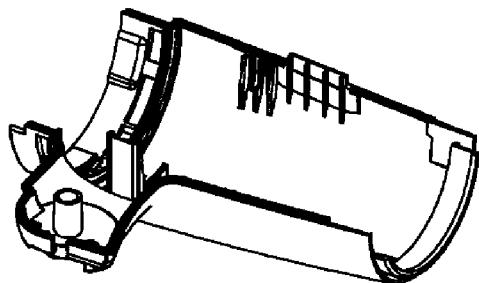

**Figure 8**
5. Take off a housing A from a housing B as figure 8.
Then remove tapping screws and a power cord retainer from handle B as figure 8.